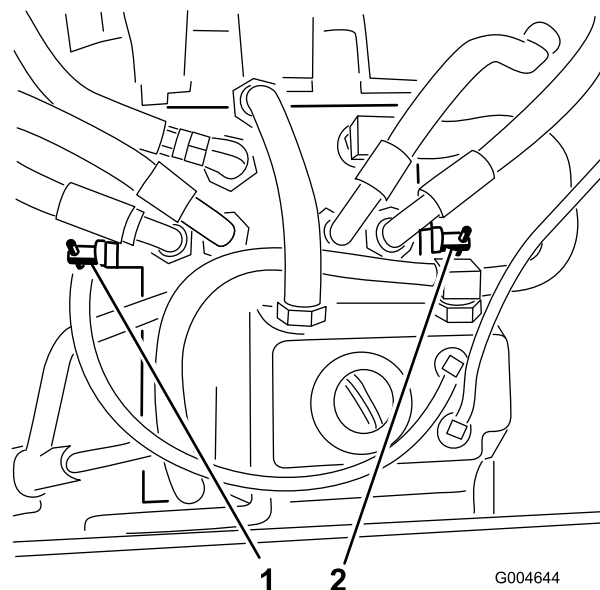

Figure 33
4. Rotate each bypass valve counterclockwise 1 turn to release; rotate each bypass valve clockwise to reset the system (Figure 33).